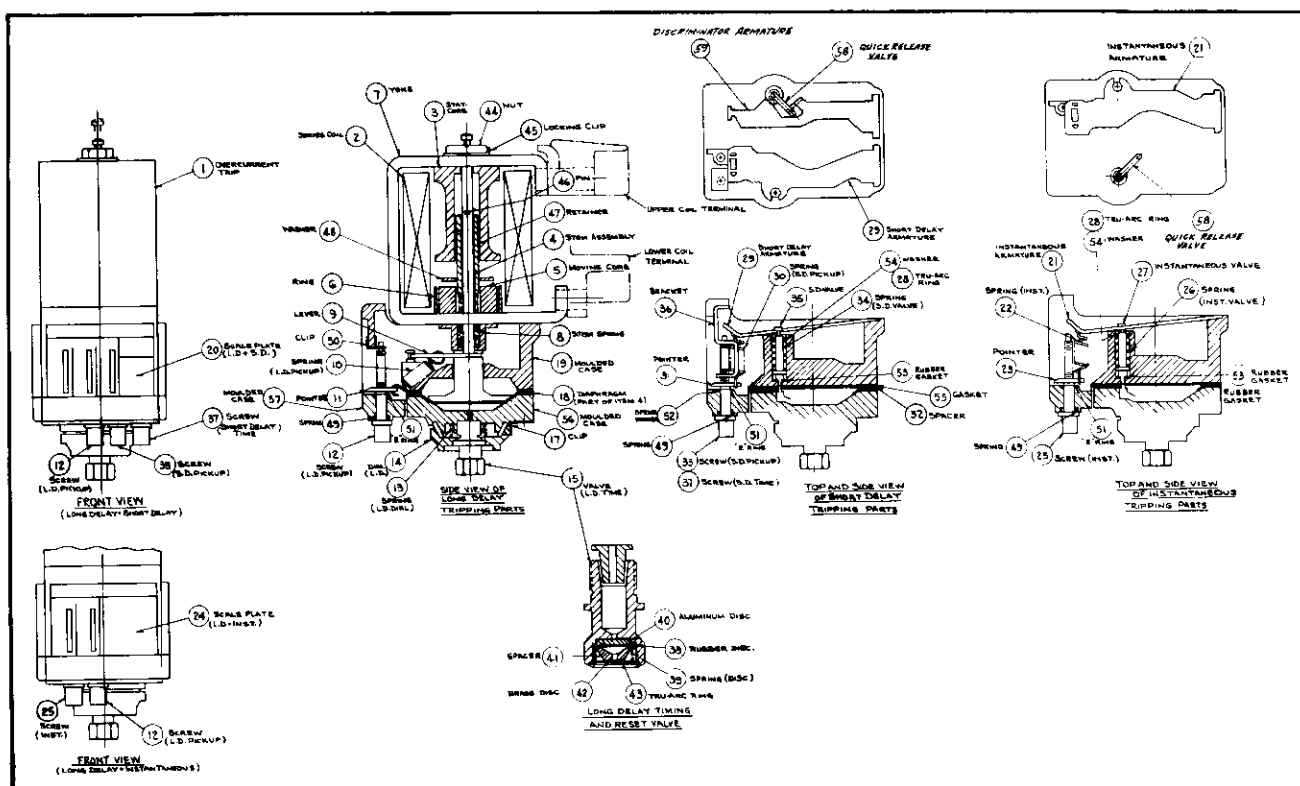
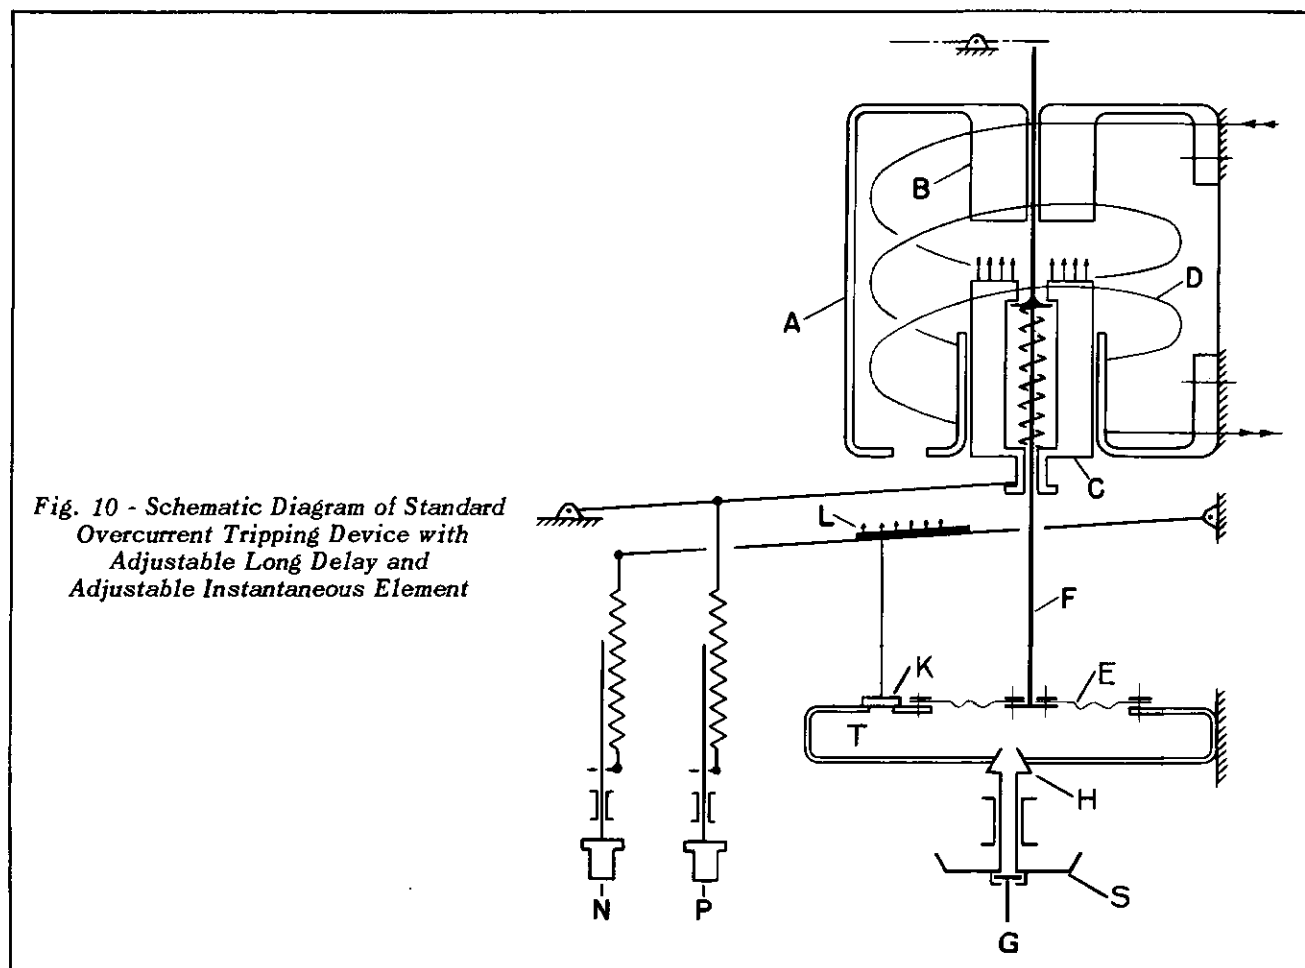

Fig. 6 - Cross-Sectional View of Series Overcurrent Tripping Device with Long Delay and Instantaneous Elements
Fig. 10 - Schematic Diagram of Standard Overcurrent Tripping Device with Adjustable Long Delay and Adjustable Instantaneous Element
To manually check the overtravel refer to Fig. 6. The air delay device can be made inoperative by opening the instantaneous valve (or the short delay valve in the case of selective type tripping devices). The valve is opened by lifting the instantaneous (or short delay) armature. A slot is provided in the side of the molded case and a small rod approximately 1/16 diameter can be entered through the side of the case and used as a lever to lift the armature. After the valve is blocked open, the trip plunger
As seen from the sectional view Figure 6, the magnet frame and coil assembly consists of a yoke, a coil, a stationary and moving core together with their necessary insulation.
An overload or short circuit through the series coil D, Fig. 10, will cause the moving core C to be attracted and move toward the stationary core B. At low currents, the moving core C will carry the tripping stem F along with it, and the motion will be retarded by the diaphragm E. The rate of travel of the diaphragm is determined by the rate at which air is permitted to enter
chamber T by the various valves H and K. When the diaphragm has reached approximately 60 percent of its travel, a quick release valve (shown in Fig. 6) is mechanically opened. This quick release feature permits the full force of the magnet to be used for tripping the breaker after the timing cycle is completed. At higher currents when the attraction between the moving core C and the stationary core B is greater than the load on the spring inside of the moving core, the moving core will compress the spring and travel independently of the tripping stem F. This spring insures a constant force pattern acting on the diaphragm E. The reset valve is shown as G.
Valve H is the long delay valve and it is permanently open to a calibrated setting. This setting which controls the tripping time can be changed by means of dial S, Figure 10. The magnitude of current at which the
long delay will begin to operate is determined by the long delay pick-up adjusting knob P, Figure 10. The magnitude of current at which the instantaneous trip will operate is determined by the instantaneous pick-up adjusting knob N, Figure 10.
B. A quick release valve (shown in Fig. 6 - short delay tripping parts) which functions as described for dual overcurrent tripping device.
C. Discriminator armature, Fig. 6.
The discriminator operating linkage, Fig. 13 and the discriminator armature, Fig. 6 are used on the selective overcurrent tripping device to make the device behave as an instantaneous type tripping device while the breaker is being closed and for approximately 0.5 seconds after closing. During this period, the discriminator armature is free to lift the quick release valve and permit instantaneous tripping, if the current is greater than the discriminator armature pick-up setting. If the current does not rise above this value, the breaker remains closed and the discriminator linkage assumes a position which makes the discriminator armature inoperable and restores the selective tripping feature to the tripping device.
The long delay pick-up can be adjusted by means of P, Figure 10, also shown in Figure 6. The unit has been calibrated and the calibration plate marked at five settings, namely 80, 100, 120, 140 and 160 percent of the coil rating. The pick-up was placed on the 100 percent setting before shipment. A different setting can be obtained by carefully turning the adjusting knob with the help of a small screwdriver inserted in the slots for that purpose.
The long delay can be adjusted by means of the long time adjusting dial S, Figure 10, also shown in Figure 6. The dial adjustment is limited to slightly less than one turn. Two points have been calibrated at the factory and are indicated by white marks on the outer edge of the dial. The dial has markings from 1 to 10. When the higher-numbered white mark on the dial coincides with the white indicator on the front of the lower case, the tripping time will be the higher long delay value shown in seconds on the scale plate. Conversely, when the lower-numbered white mark on the dial coincides with the white indicator on the front of the lower case, the tripping time will be the lower long delay value shown in seconds on the scale plate. These tripping times are calibrated with currents which are 600 percent of the coil rating applied. The dial settings are scribed on the scale plate under long delay dial setting heading.
The instantaneous pick-up can be adjusted by means of knob N, Figure 10, also shown in Figure 6. The instantaneous pick-up has been calibrated at 8 and 12 times or 5 and 10 times the coil rating at the factory. The adjusting knob can be turned carefully with the help of a small screwdriver inserted in the slots for that purpose, if a different setting is desired.